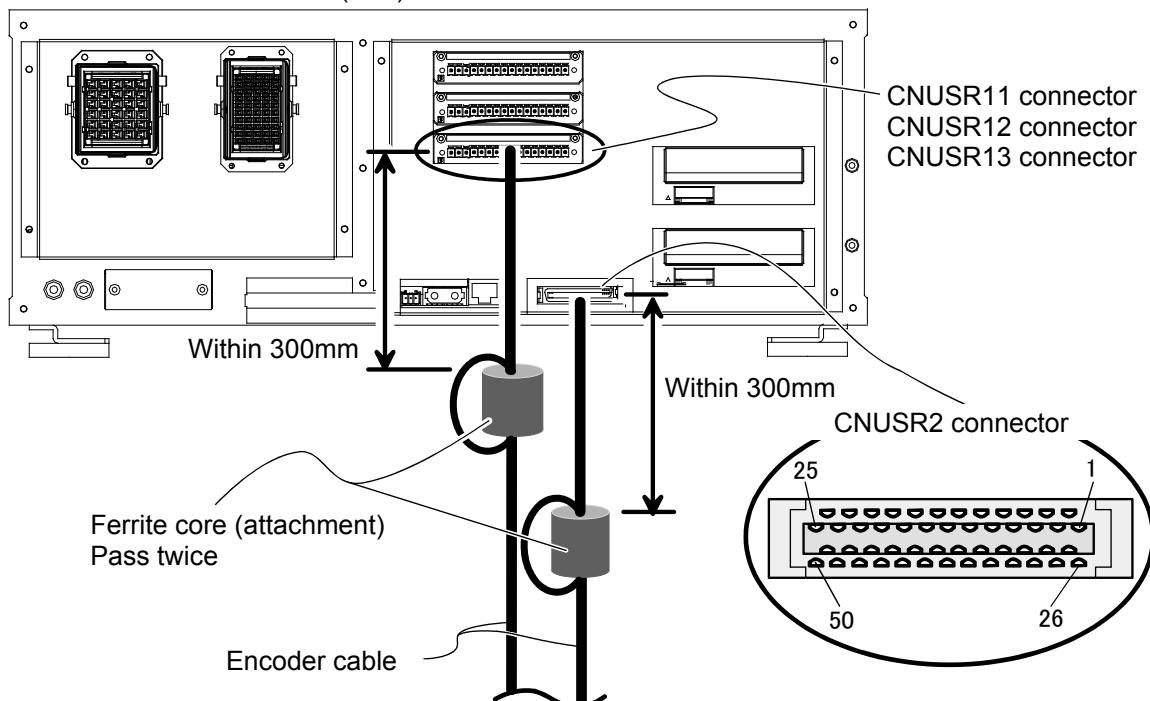

Figure5-9 Installation of encoder cable (CR750-D series)
*CR750-D series: "Figure5-9 Installation of encoder cable (CR750-D series)"